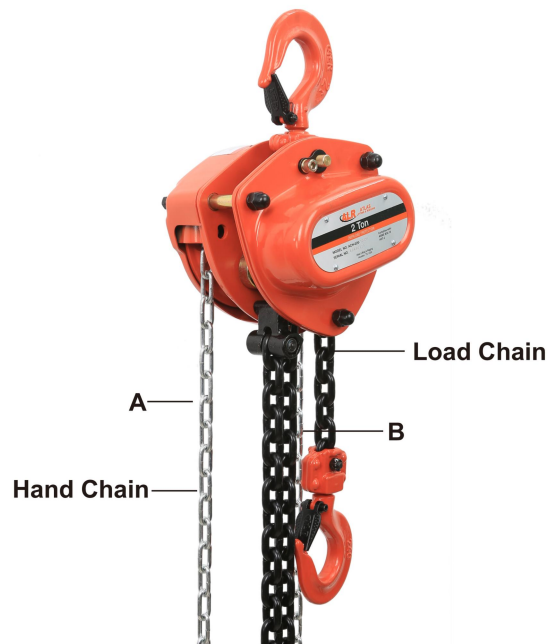

Figure 5
To raise the load, pull the right side of the hand chain (A, Figure 5) clockwise.
To lower the load, pull the left side of the hand chain (B, Figure 5) counterclockwise.
1. Remove the *cotter pin* (A) and the *chain anchor pin* (C) on the *chain anchor* (D), allowing the end of the chain to fall free.
2. Pull the *hand chain* (Fig. 5) until the load chain is completely removed from the gear assembly.